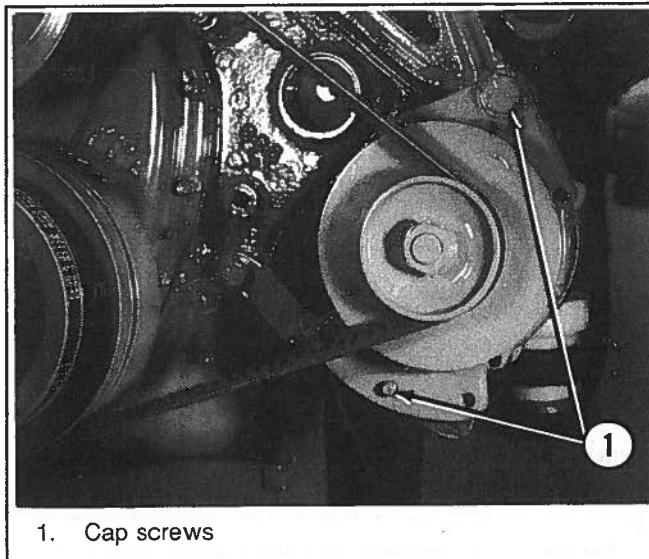

Figure 6-66. Removing Alternator-Mounting Screws
3. Loosen cap screws (Figure 6-66). Move alternator towards engine and lift belts off the pulley.